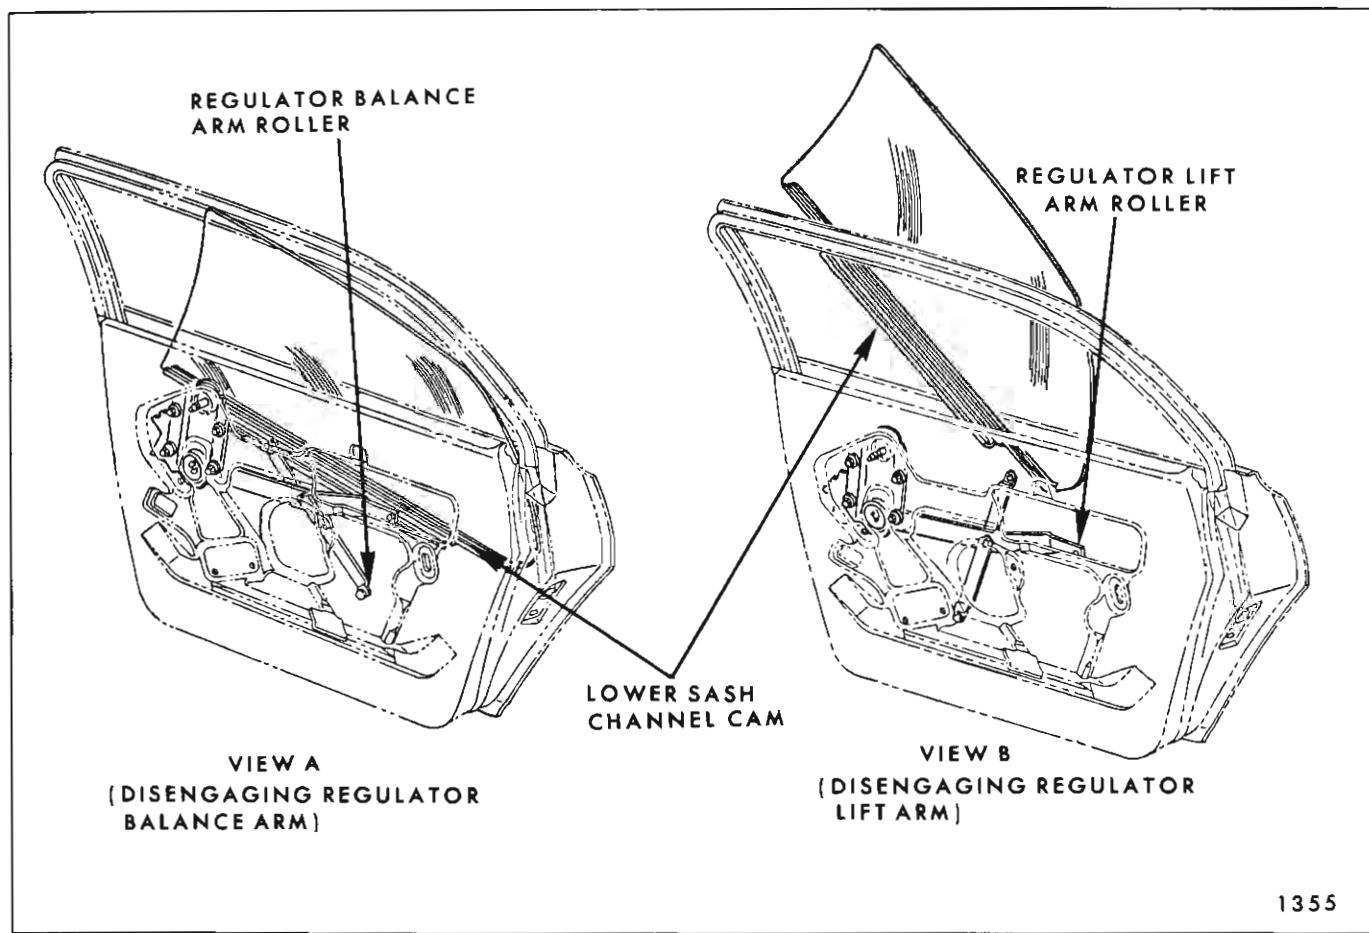

Fig. 2D41—"69" Style Rear Door Window Removal
2. Drill a 1/4" hole through back plate and sector gear, at a location dependent upon position of lift arm. DO NOT drill into motor housing (See Fig. 2D31).